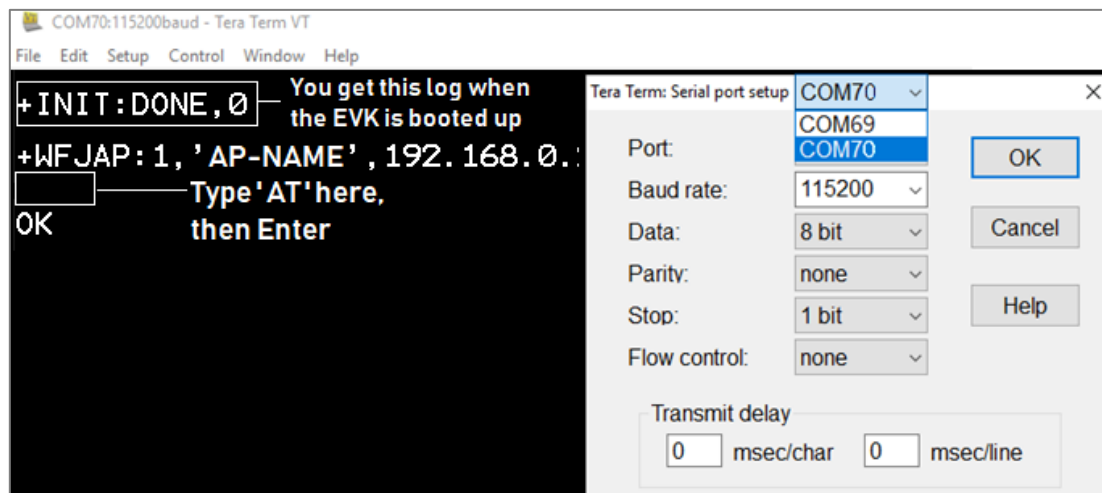

Figure 33. Initial setup to start with AT command
5. Select Setup > Serial Port and configure the UART port with the parameters as shown in Figure 33. Select the higher COM port number as discovered in step 2.